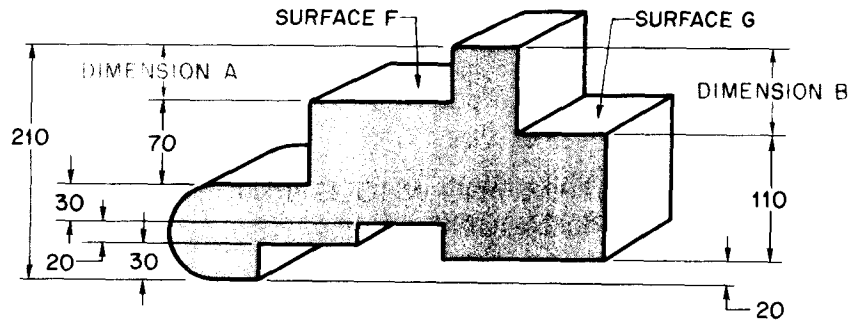

Fig. 1-3
5. A machinist must know dimensions A and B in order to finish grind surfaces F and G of the casting shown in figure 1-3. All dimensions are in millimetres.